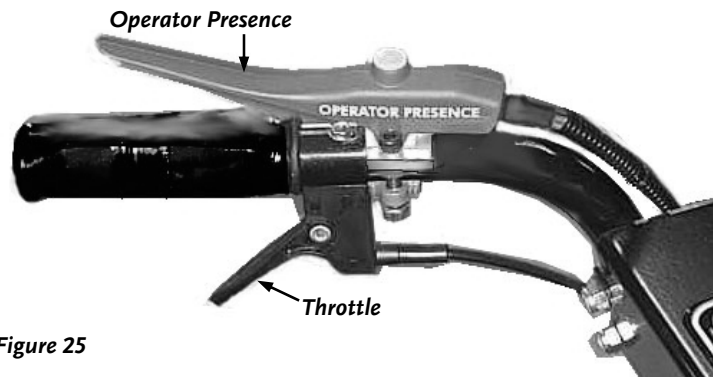

Figure 25
2. Remove the Operator Presence Lever from the left Handlebar using a Phillips Screwdriver (**Figure 25**).
3. Remove the Throttle from the Handlebar with a 5/16" Wrench or Socket (**Figure 25** on page 27).